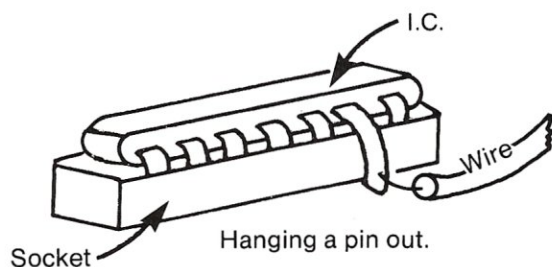
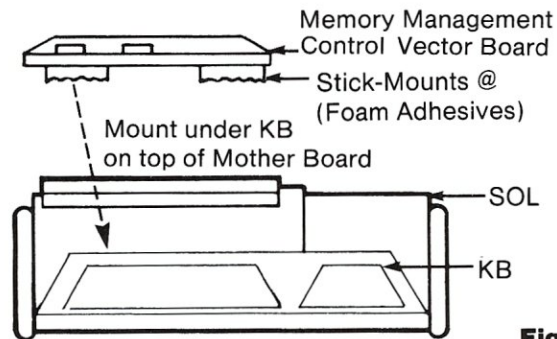

Figure 1.
Figure 2.
The required circuit changes can be made without cutting any printed circuit board traces. The technique of hanging the IC pin to be changed outside of the socket and soldering a wire to it can save much wear and tear on the circuit board (Figure 1). The two chip memory management control circuit can be assembled on a small vector board and mounted inside the Sol under the keyboard as shown in Figure 2.
•Step 6. In step 6 the connection of the memory management circuit board is installed. Mount the memory management board and connect the circuit to VCC (+5 Vdc) and ground. This power comes from the Sol mother board. Connect to the following signals to the Sol. See figure 2 and drawing 2.